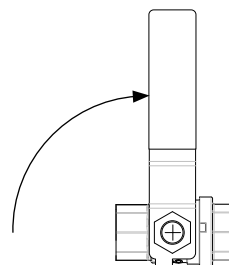

Figure 51: Supply valve closed
2. Located on the TIREMAAX controller, **turn** the Supply valve (if equipped) to the closed position (Figure 51).
3. **Locate** controller on the trailer, Figure 51 on page 46.